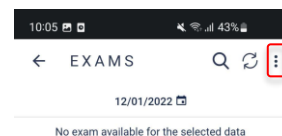

Figure 26 - Exams screen
2. Click on the icon  , figure 26